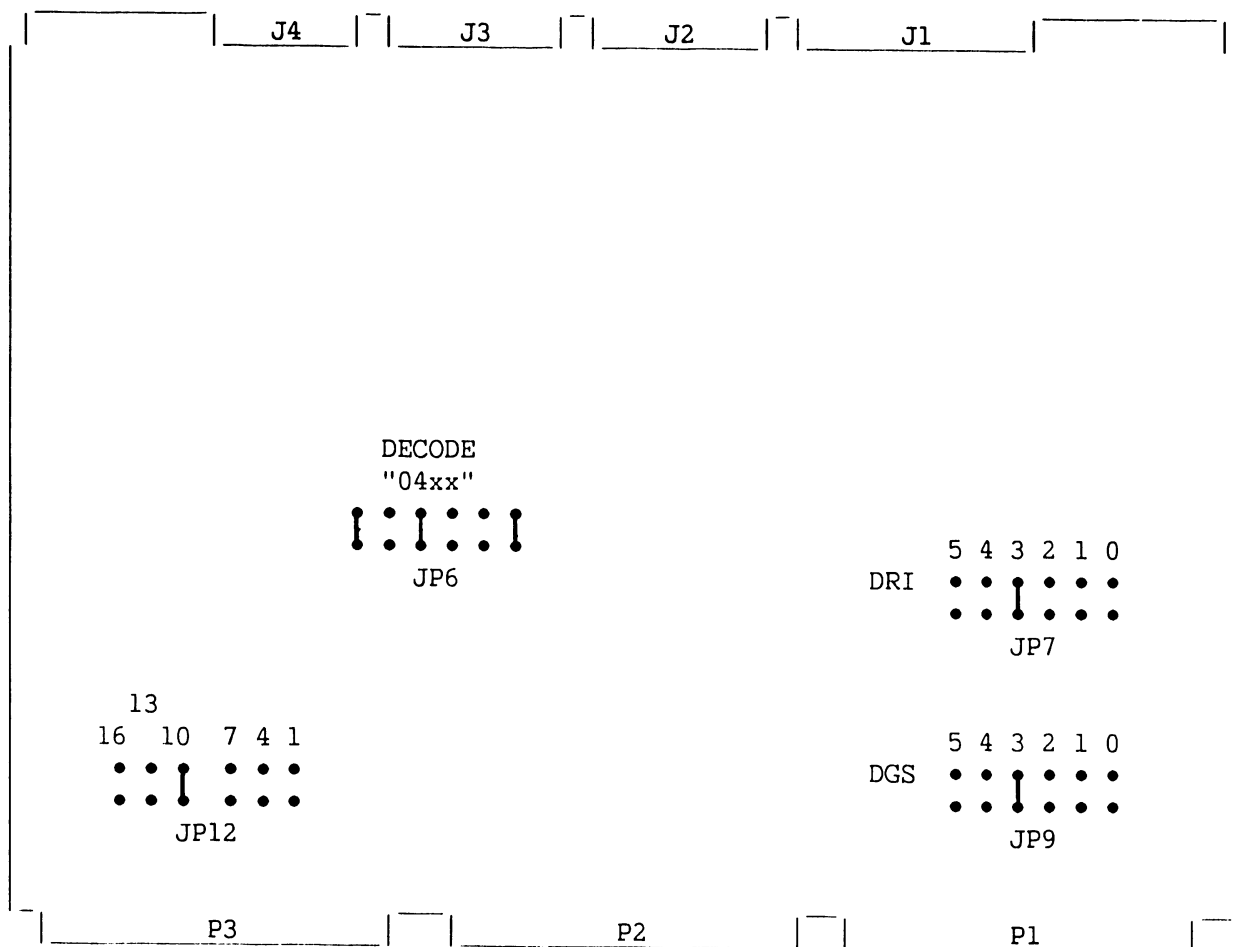

Figure 5-15. Serial I/O DA Connector and Jumper Locations
4. Check the jumpers (figure 5-15) on the SIO DA and reinstall or replace the DA in Motherboard slot number 4. Insert the adapter into the board guides and lower it to the Motherboard connector.